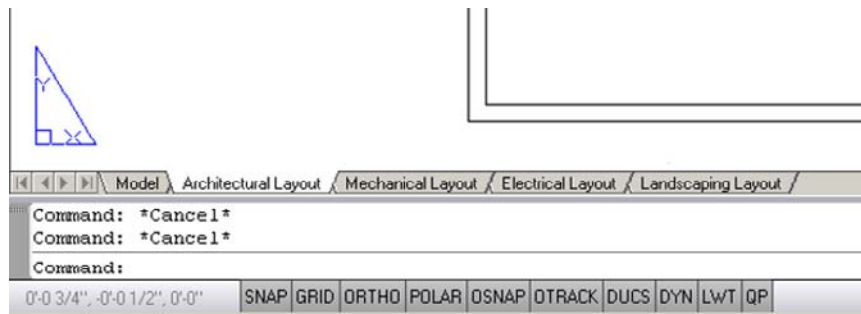

Figure 18.12 – All tabs
Be sure to do two things. First of all, check off the “Create a copy” box at the bottom left and also click on to highlight the “(move to end)” choice, which will simply place the new title sheet next in line after the existing Architectural Layout, and may be important later when it come to the printing order. The order can be seen in Figure 18.12. Finally click OK and observe what happens with the tabs. A new one appears, saying Architectural Layout (2), and it is a perfect copy of the previous existing tab. Go ahead and rename it (as outlined earlier) to Mechanical Layout. Repeat the whole procedure to create a third tab called Electrical Layout, and finally a fourth tab called Landscaping Layout. Here is the final result (Figure 18.12).